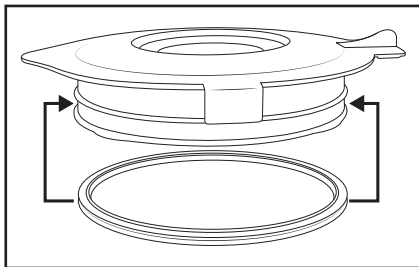

Fig. 3
- To prevent injuring yourself on the cutting blades ④, clean the blender ③ only with a long-handled washing-up brush.
- Clean the measuring cap ① and the lid ② in a mild soap solution. You can remove the rubber seal ⑤ to clean the blender lid by hand. Make sure that the rubber seal ⑤ is correctly reattached before you use the lid ② again (Fig. 3).